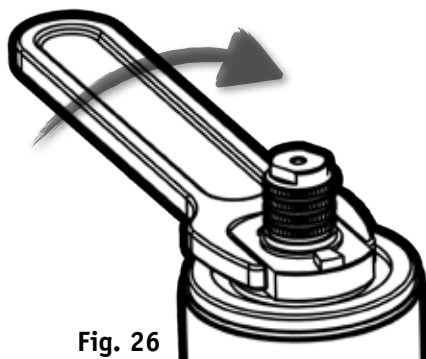

Fig. 26
11) Screw the CARTRIDGE FLANGE 17 into place using 30mm TORQUE SPANNER, applying 80Nm torque (Fig. 26)